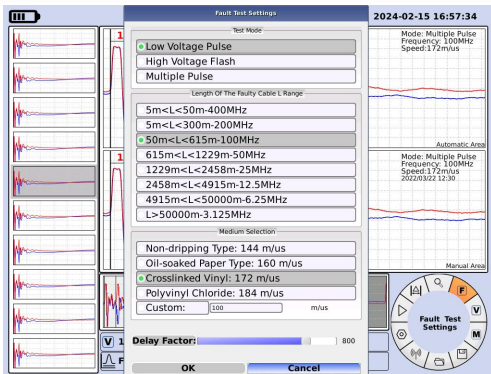

Figure 3.3 Fault Detection Setting Interface
As shown in Figure 3.3, rotate the "Photoelectric Rotator ⑪" to switch the focus to , with the center displaying "Fault Test Settings". Press the ⑪ "Optoelectronic Rotary" button to enter the fault testing settings interface. Rotate the ⑪ "Optoelectronic Rotary" to select a testing method, sampling frequency, or wave velocity, and press the button to confirm your selection. You can also enter a custom wave velocity.